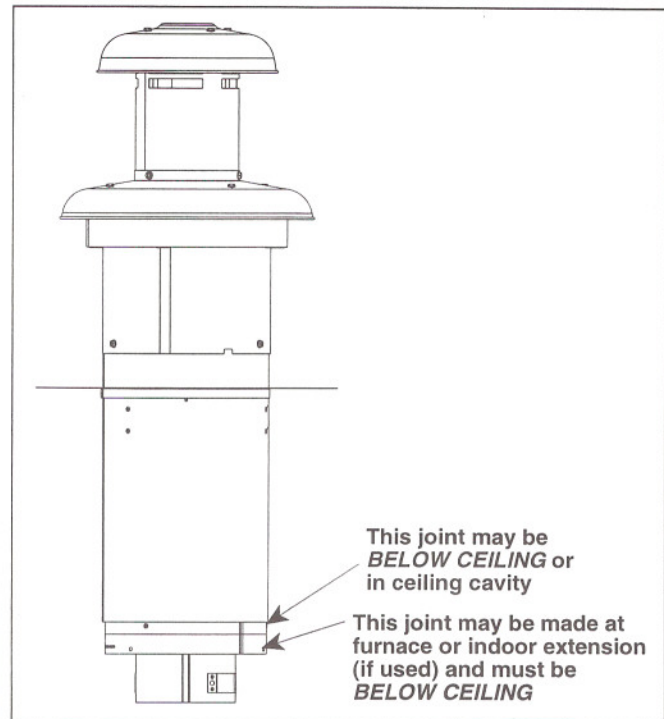

Figure 4.
- CONNECT ROOF JACK ASSEMBLY TO FURNACE. Insert the telescoping Roof Jack assembly through the opening cut in the roof. Engage the flue pipe and the flue collar of the furnace. Connect the combustion air pipe to the furnace collar with a sheet metal screw. The connection of the combustion air pipe to the furnace should be made before the flashing is secured to the roof to maintain alignment to the roof jack and the furnace connections, see Figure 4.